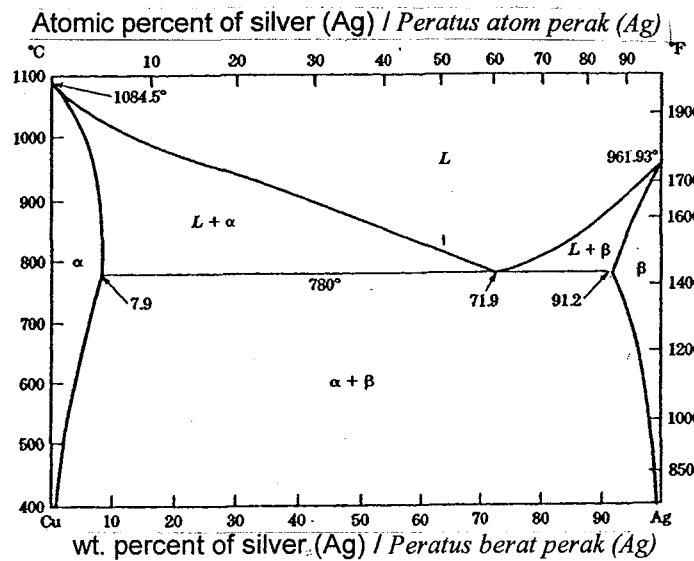

Figure 9 - The copper-silver phase diagram
- [c] If 750g of an 80 wt% Ag – 20 wt% Cu alloy is slowly cooled from 1000°C to just below 780°C (Refer to Figure 9);